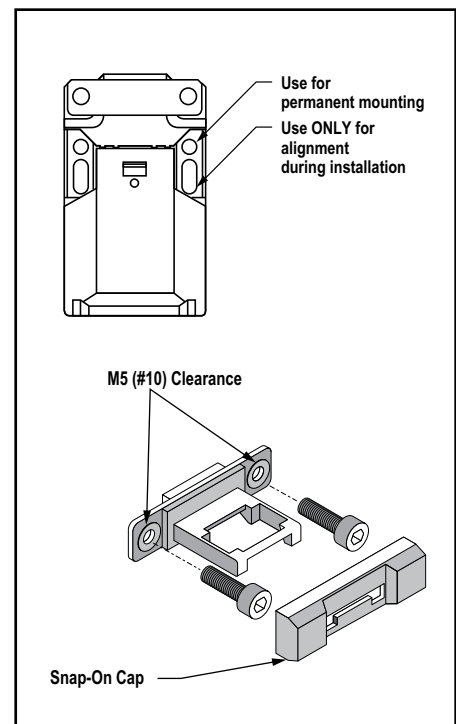

Figure 2. Mounting holes installation
1. Temporarily mount the switch body in place, with its actuator inserted, using the slotted 5 mm holes. See Figure 2.
NOTE: The non-adjustable in-line actuator includes floating sleeves in the mounting holes to allow some forgiveness for switch-to-actuator alignment. Take care to not over-tighten the actuator fasteners so as to allow this movement. This actuator also includes a snap-on cap to cover the fasteners (see Figure 2).